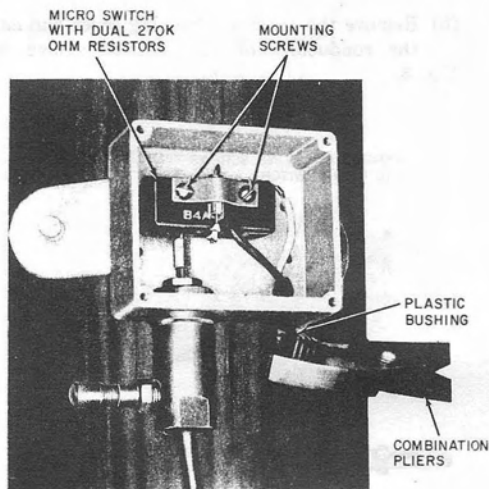

Fig. 4—B End Point Contactor Modified for Dual Resistor Operation
- (f) Secure the switch in place with the mounting screws furnished as shown in Fig. 4.